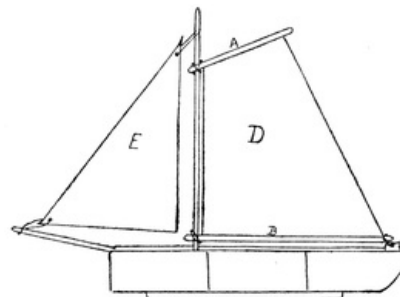

FIG. 153
**A Sailing-boat.** A very pretty little sailing-boat can be made, as in Fig. 153. The sails are of glazed lining. The edges of this do not fray, so the sails do not require hemming, and as they must be as light as possible, this is a great advantage.